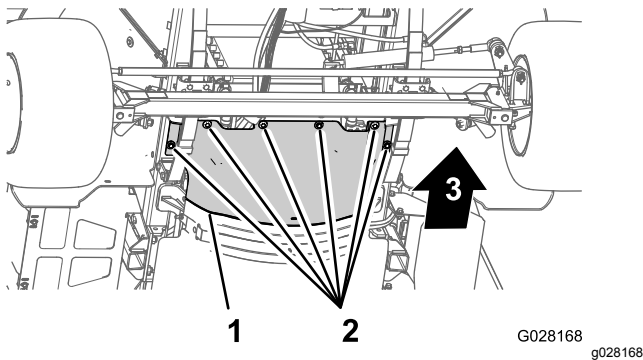

Figure 48
4. Remove the 6 hex-head bolts and 6 washers that secure the front forward heat shield to the chassis and remove the shield (Figure 48).